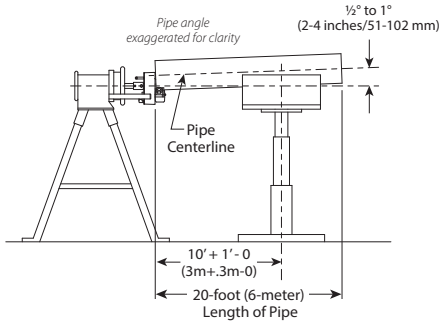

FIGURE 1 - SUPPORT OF PIPE
b. Place the pipe stand at a distance slightly beyond half the pipe length from the tool. Refer to Figure 1 above.
d. Adjust the height of the pipe stand so that the pipe is approximately $\frac{1}{2}^{\circ}$ to 1° **ABOVE** level. Refer to Figure 1 on this page. **NOTE:** The pipe must be inserted into the rolls while the height of the pipe stand is adjusted.
- Figure 1 shows the Victaulic Adjustable Pipe Stand (VAPS 112). The VAPS 112 is suitable for $\frac{3}{4}$ – 12-inch sizes. The Victaulic Model VAPS 224 is suitable for 2 – 24-inch sizes. Refer to the “Accessories” section.